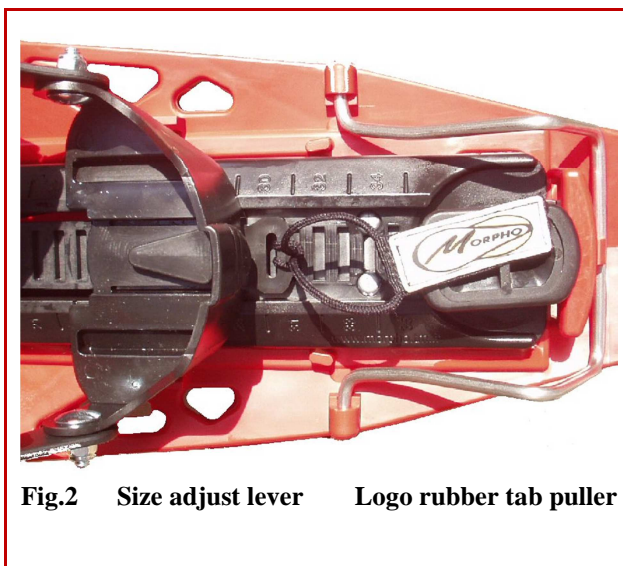
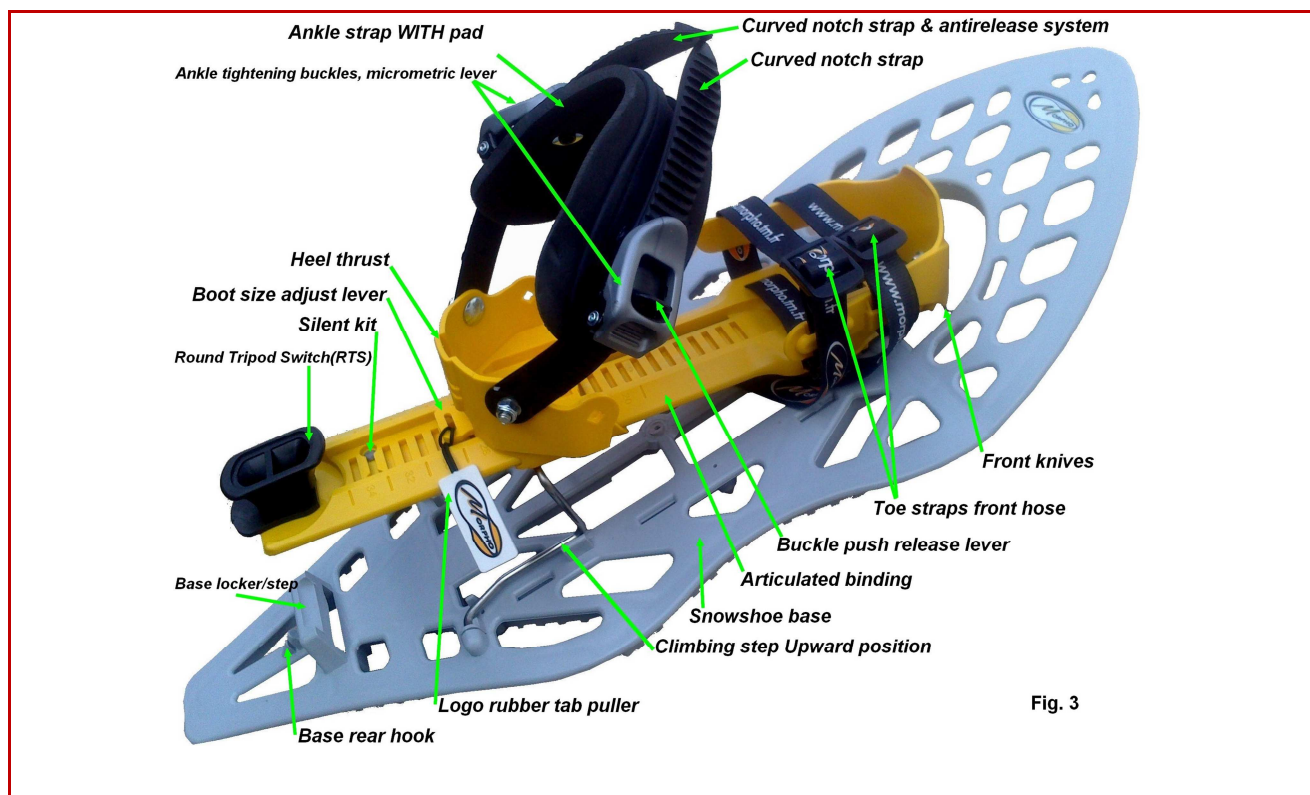

Fig.2 Size adjust lever Logo rubber tab puller
Fig. 3
1. Untighten **ankle strap** (by loosening completely one of the **two notch straps** from one of the **two buckles** of the strap) as well as the **2 toe straps** so as to insert your boots and to adjust the **heel thrust** of **articulated binding** plate to your boot size. See Fig.3
3. Adjust the heel thrust to the proper size of your boot using the Morpholock system. See Fig.2:
6. **Snowshoeing:** keep **articulated binding plate free** from snowshoe base when going flat, traverse, uphill or downhill: the **RTS** unlocked from base locker/step in all cases. The articulated binding must **lay flat** on the snowshoe base or **stepping** on the extra high **metallic climbing step** when climbing steep slopes: for this purpose rotate the **climbing step** forward in its upwards position (fig.3) from its idle position (fig.2) with your gloves.
7. **After use, untighten ankle strap** first: push on the **release levers**(black) of the ratchet buckles(grey) and pull out the ankle strap from one of the notch straps(the one without antirelease system) while keeping pressure on the **buckle push release lever**. Then untighten the 2 toe straps: pull up the ends of the quick buckles and loosen the webbings. See fig 3. Remove your boot. **To store** the snowshoe push the articulated binding on the base and lock it to the base by **rotating the RTS** so as to **insert it into the base locker/step**. See fig.2
.When rotating backward metallic climbing step to its idle position make sure to fully push it down until it is blocked by the snowshoe base **rear hook**. (fig.2)